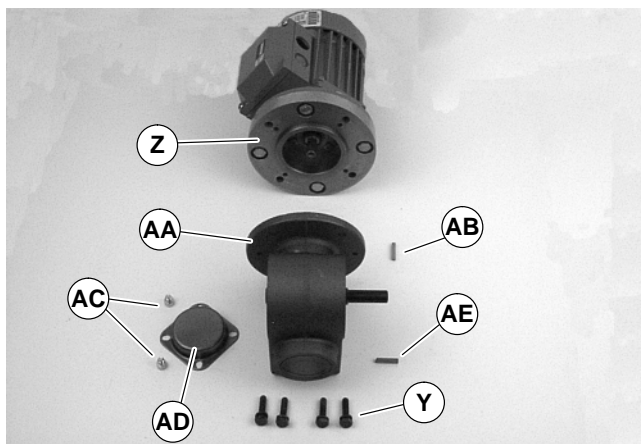

Figure 16
5. Remove four screws (Y of Figure 16). Detach motor with adapter flange (Z) from gear reducer (AA). Retain motor output shaft key (AB).
- With key (AB of Figure 16) in keyway, slide motor with adapter flange (Z) and gear reducer (AA) together. Install screws (Y) and tighten.